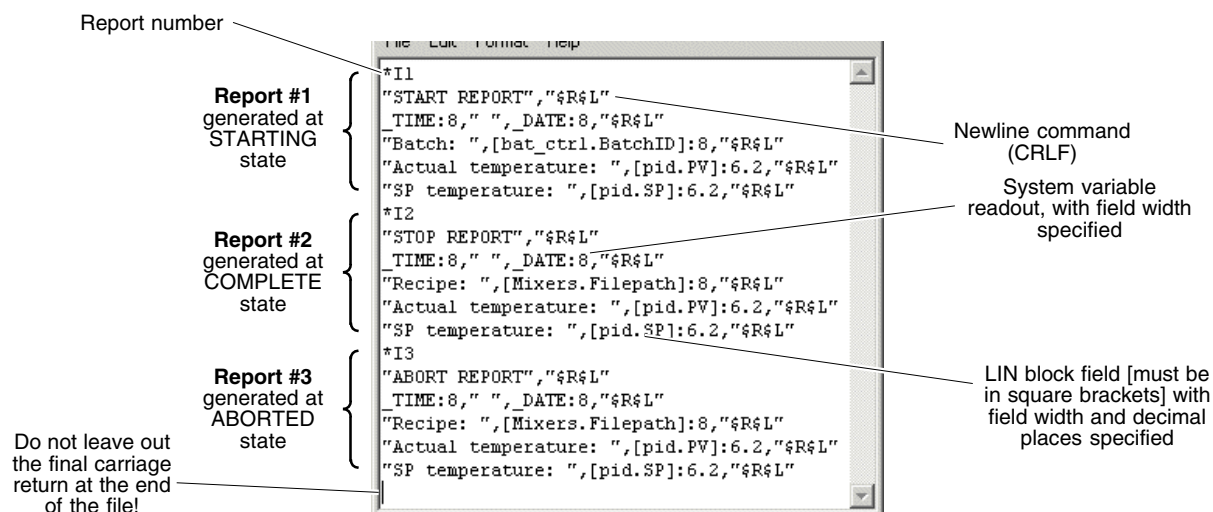

Figure 6-9 The configured ‘batch.uyf’ report form file
- 1 Open a blank text editor window (e.g. in ‘Notepad’) and type in the text exactly as shown in Figure 6-9.
To successfully format a batch report, the file must be partitioned into three sections, identified by ‘report numbers’ *I1, *I2, and *I3. The first section formats a report generated when the batch engine enters the STARTING state (the ‘Start Report’). The second section (‘Stop Report’) activates when the COMPLETE state is entered, and the third (‘Abort Report’) if and when ABORTED is entered. **This arrangement is mandatory for batch report form files.** The *contents* of each report section is optional. In the example in Figure 6-9:
- At the Computer, explore the report contents. Open up the report in 'Notepad'. Figure 6-11 shows the sort of thing you might see. If you compare this with the form file, see Figure 6-9, you will see that the 'Start report' and the 'Stop report' sections have been used. No 'Abort report' appears because you did not abort the batch. Try this next.